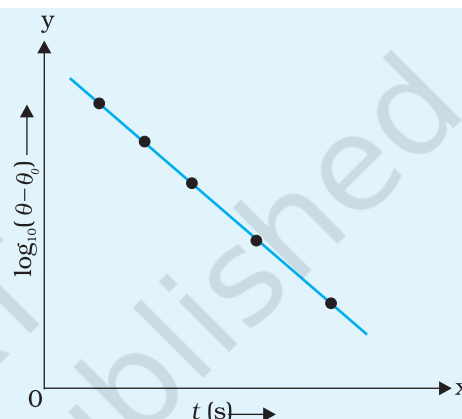

Fig.E 14.3: Graph between $\log_{10} (\theta - \theta_0)$ and t
- Also plot a graph between $\log_{10} (\theta - \theta_0)$ and time t , as shown in Fig. E 14.3 taking time t along x-axis and $\log_{10} (\theta - \theta_0)$ along y-axis. Choose suitable scales on these axes. Identify the shape of the cooling curve and the other graph.